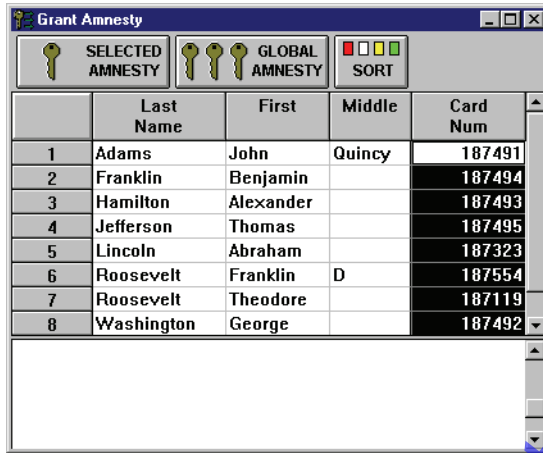

Figure 6-34: Preparing to Sort User Data by Card Number
1. Click on the Card Num column header. The entire column is highlighted (see Figure 6-34).